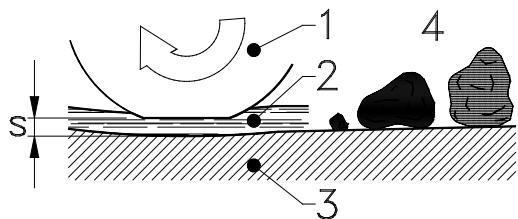

Fig. 10.1
Rolling bearings are able to transmit large forces via very close contact areas (fig. 10.1). In between the rolling elements (1) and the rings (3) a lubricant film (2) builds up which separates the metallic bearing parts.